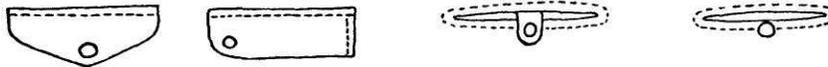

Fig. 2 Snap Closures for Pockets
10. To sew the ends in, start at a bottom corner and use a finished felled seam, felled toward the canopy. Pin the seams first to be sure the peak will come out at the ridge because the ends are cut on the bias and will stretch if not controlled. Sew with the canopy on top and the end underneath. In the case of the zipper end, the edge of the zipper tape is  $\frac{1}{4}$ " back from the rough edge of the canopy. Before starting, cut two 12" lengths of web and include these at the peaks so 2" tails extend inside and a 4" long loop extends outside. The tails are well anchored to the ridge when felling this seam. See detail Fig. 2.
The other method of closing pockets is with a button or snap down flap. The flaps are made of two layers of fabric stitched around and turned inside out. For hip pockets a simple button or snap across the center of the opening keeps large objects from slipping out. (See Fig. 2, Plate IX.)